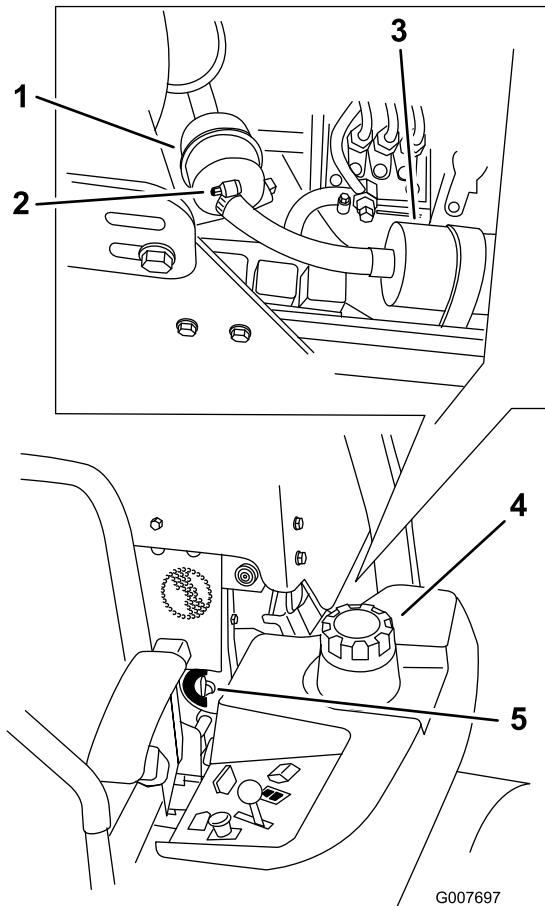

Figure 47
4. Close the fuel shut-off valve(Figure 47).
5. Loosen the two hose clamps and disconnect the fuel lines from the fuel filter (Figure 47).
6. Install a new filter. Connect the fuel lines to the fuel filter and install the two hose clamps (Figure 47).